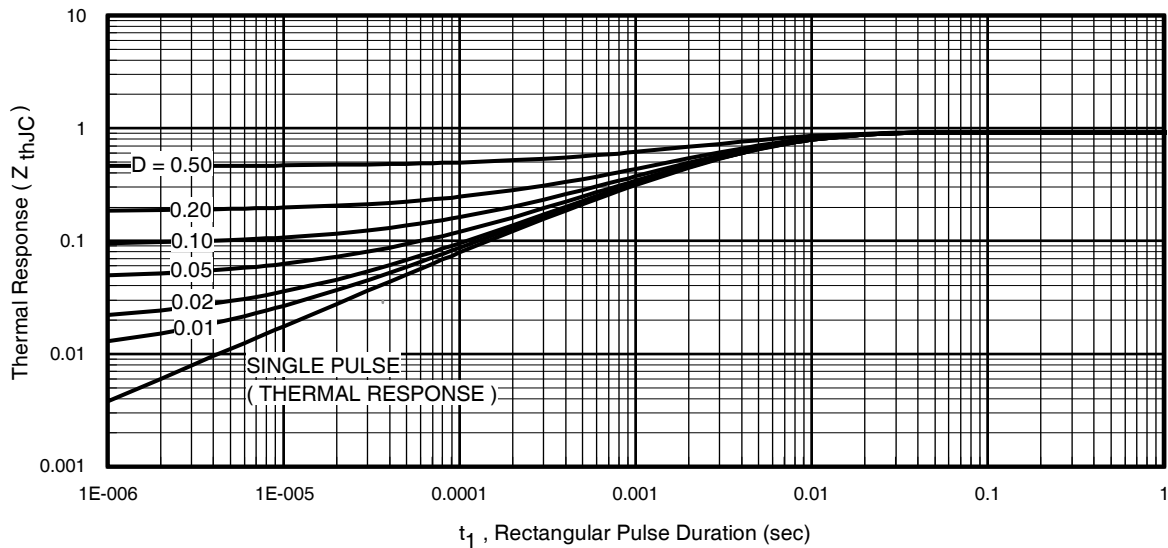

Fig 11. Maximum Effective Transient Thermal Impedance, Junction-to-Case
- ① Repetitive rating; pulse width limited by max. junction temperature. (See fig. 11).
- ② Limited by T_{Jmax} , starting $T_J = 25^\circ\text{C}$, $L = 0.27\text{mH}$, $R_G = 25\Omega$, $I_{AS} = 35A$, $V_{GS} = 10V$. Part not recommended for use above this value.
- ③ $I_{SD} \leq 35A$, $di/dt \leq 380A/\mu s$, $V_{DD} \leq V_{(BR)DSS}$, $T_J \leq 175^\circ\text{C}$.
- ④ Pulse width $\leq 1.0\text{ms}$; duty cycle $\leq 2\%$.
- ⑤ $C_{oss \text{ eff.}}$ is a fixed capacitance that gives the same charging time as C_{oss} while V_{DS} is rising from 0 to 80% V_{DSS} .
- ⑥ This value determined from sample failure population, starting $T_J = 25^\circ\text{C}$, $L = 0.27\text{mH}$, $R_G = 25\Omega$, $I_{AS} = 35A$, $V_{GS} = 10V$.
- ⑦ This is applied to D²Pak, when mounted on 1" square PCB (FR-4 or G-10 Material). For recommended footprint and soldering techniques refer to application note #AN-994.
- ⑧ R_θ is measured at T_J approximately 90°C .
- ⑨ This is only applied to TO-220AB package.
$Z_{thJC}(D, t_{av})$ = Transient thermal resistance, see figure 11)